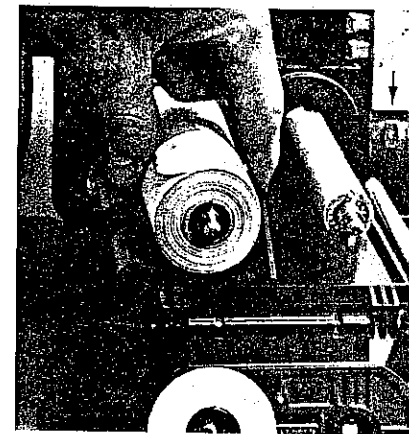

Figure 27
5. To remove the full take-up roll and the empty supply spool, press the two metal tabs together on the top of the platen assembly, and pull out and down on the paper retainer. (See Figure 26.) The full take-up roll can now be easily removed from the paper core shafts. (See Figure 27.)